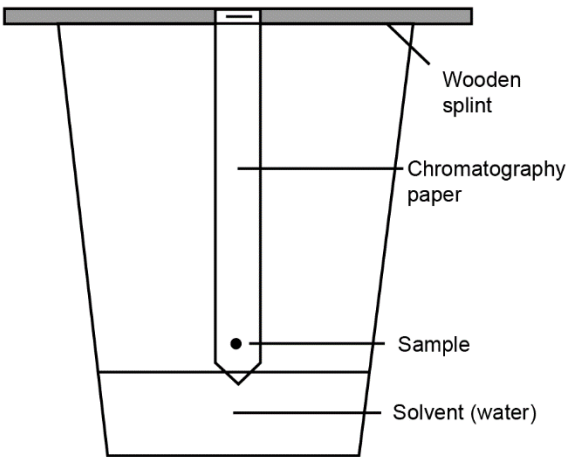

Figure 4.
7. Slowly lower one filter strip into the plastic cup. See Figure 4. The sample spot should remain above the solvent (the water). If it is not, your sample will dilute into the water. If the water is not high enough, remove the filter strip and add more water in 5 mL increments until the water touches the bottom point of the filter strip.